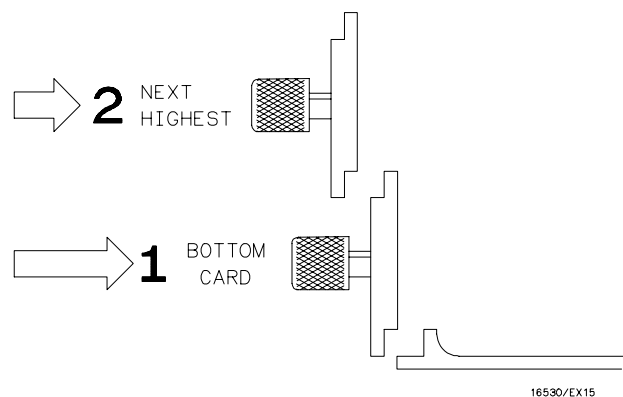

Figure 6-12. Endplate Overlap - Bottom Sequence
5. Repeat step 4 for all cards and filler panels in a bottom-to-top order. See figure 6-12.